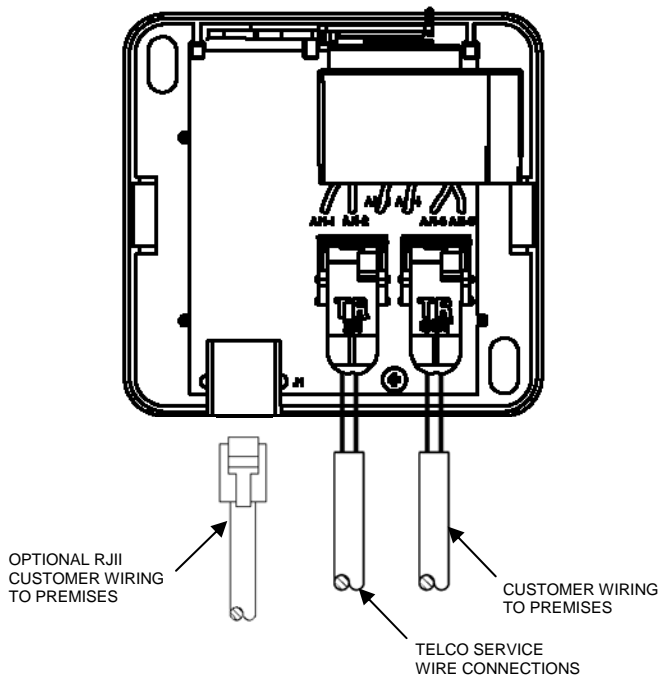

Figure 2
4. Push down the IDC rocker to the closed position for termination. See Figure 2 for the TII 751-1T-01 wiring.
6. Push down the IDC rocker to the closed position for termination. See Figure 2 for the TII 751-1T-01 wiring.
7. If the customer premise wiring is fitted with an RJ11 connector (See Figure 2), you may use the RJ11 jack in place of the IDC (marked "OUT) as mentioned in step 7.